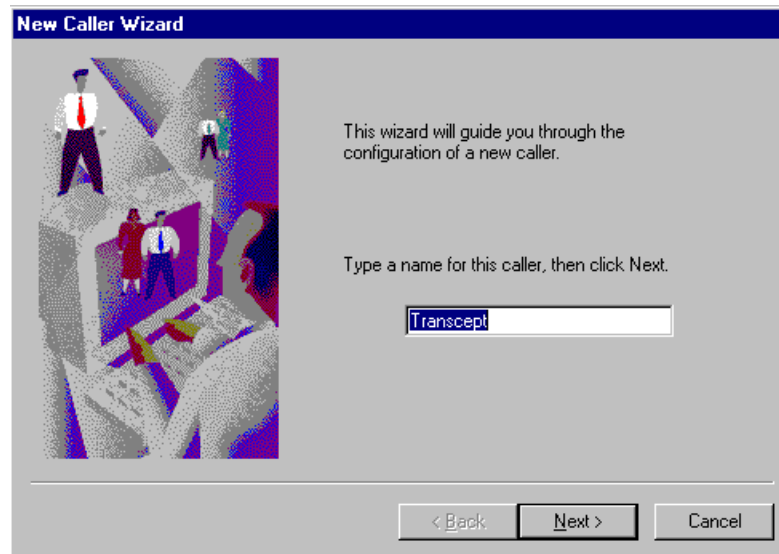

Figure 5-8. Caller Name Entry
- b. Double click on the Add Caller icon to launch the New Caller Wizard (Figure 5-8).